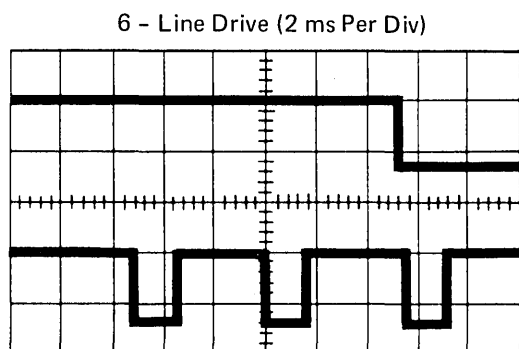

Figure 1-60. Triple Space
4. Triple-space after print – 6-line drive (Figure 1-60).